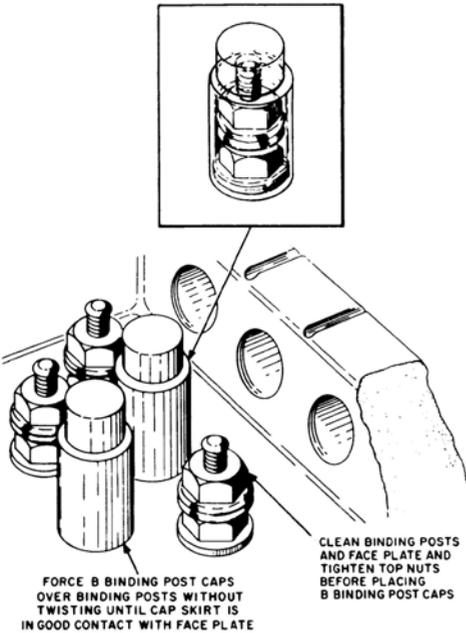

Fig. 31—Placing B Binding Post Caps
6.09 When installing the B binding post caps, first turn down the nut of the binding post fingertight. Force the cap over the binding post, without twisting, until the skirt of the cap is in good contact with the faceplate. If the cap is twisted while being forced over the binding post, the skirt of the cap may fold under instead of seating squarely on the faceplate as desired. Figure 31 shows a properly placed binding post cap.